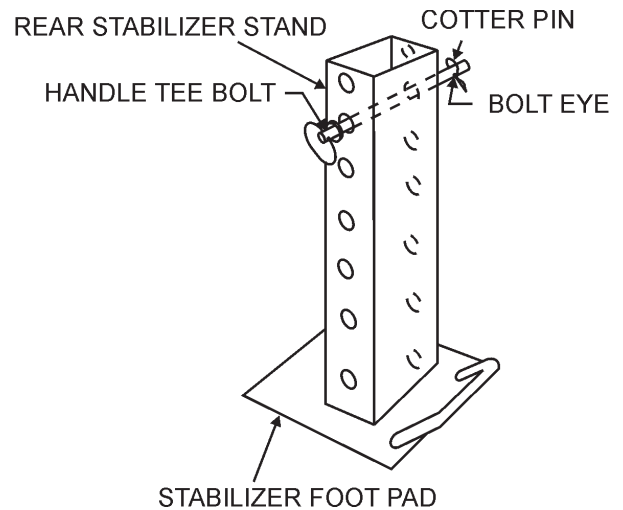

Figure 17. Rear Stabilizer Stand
16. Remove the **cotter pin** from the handle tee bolt eye, and then **pull** the handle tee to release the stabilizer stand (Figure 17).